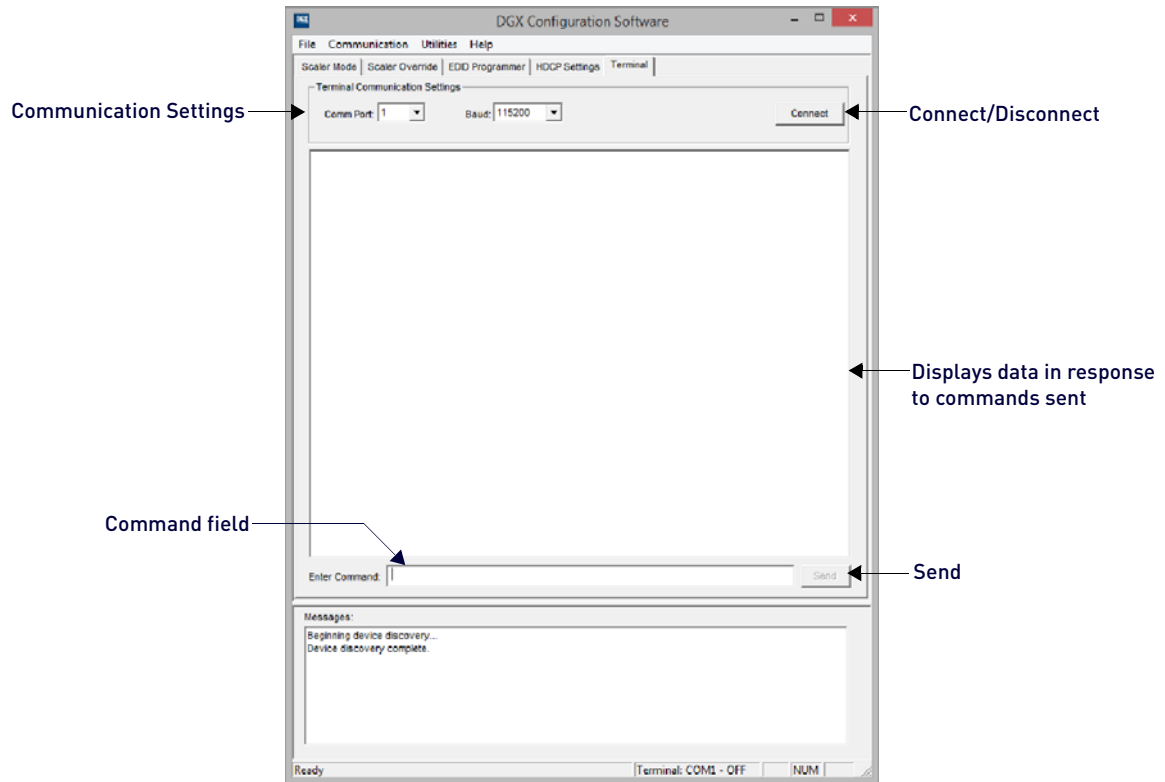

FIG. 168 Terminal view
1. In the DGX Configuration Software interface, select the Terminal tab (FIG. 168):